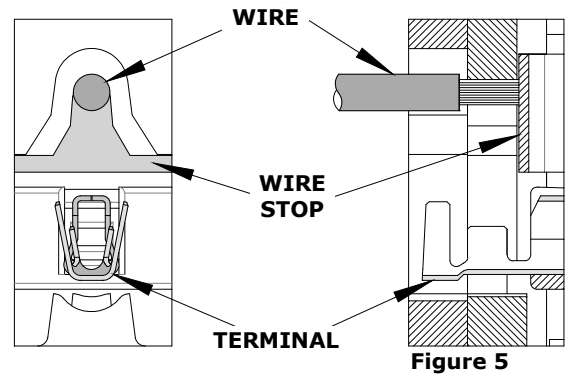

Figure 5
8. On some wires, it may not be possible to insert the wire with the tool partially closed. Those wires should be inserted with the hand tool in the open position. Insert the wire above the terminal and against the wire stop, then close the tool. See Figure 5.